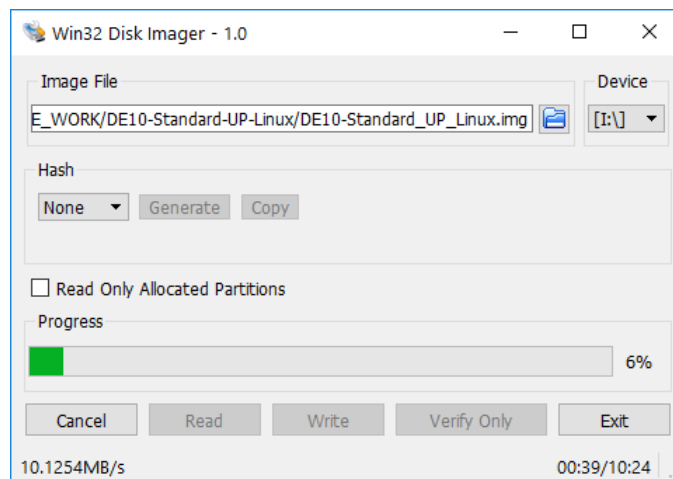

Figure 1. The Win32 Disk Imager program.
2. Select the drive letter corresponding to the SD-card under *Device*, as indicated in Figure 1.
3. Select the *DE1-SoC-UP-Linux.img* image under *Image File*, as shown in Figure 1. This image file can be found following the instructions in Section 2.2.